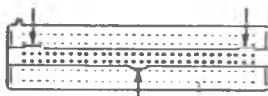

Figure 3
**Inspect (Figure 3)**
There are two types of clips used on the MEM-CAL sockets. A "solid" type is used on the early production models and a "hollow" type is used on later production models. See Figure 3.